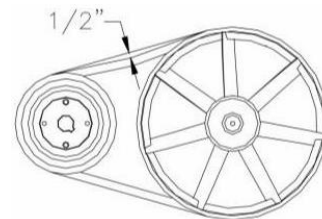

Figure 2
7. Check for proper belt tension. (Figure 2)